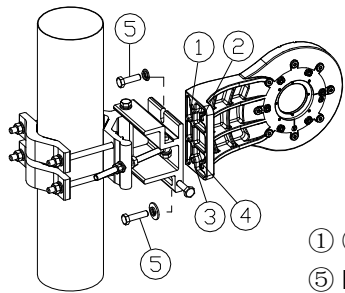

Fig 4.3
Make coarse elevation adjustment (shown in Fig 4.3): loosen the bolts ⑤. Select the correct holes for the range of adjustment required based on the following table. Tighten bolts ⑤ after adjustment is complete.